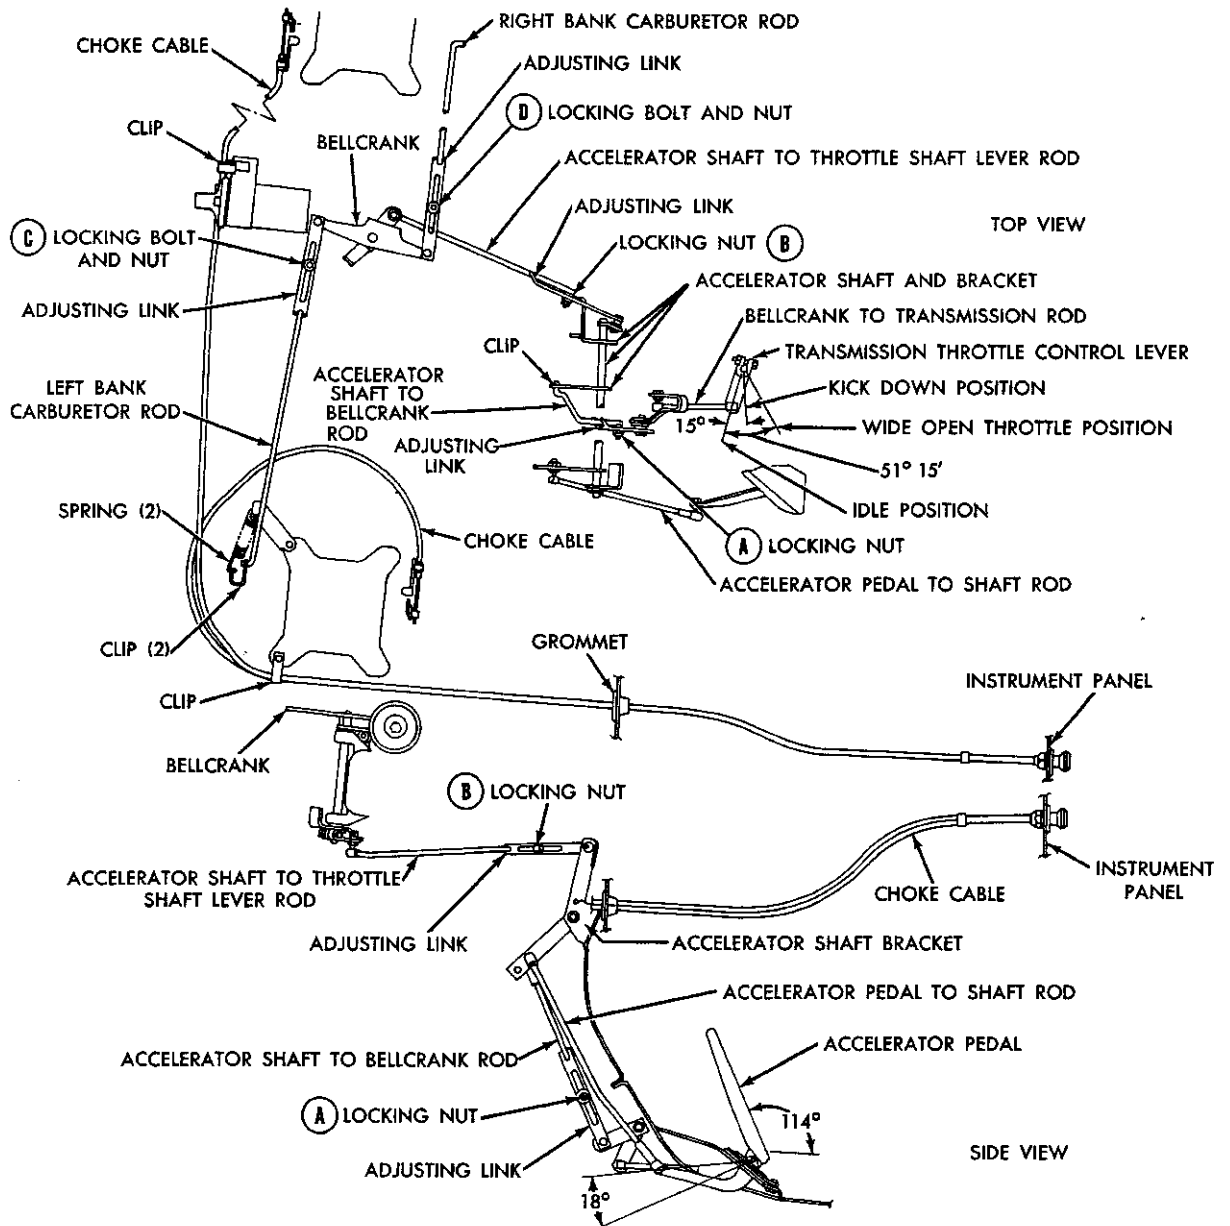

Fig. 23—Throttle Linkage Adjustment (C-300J)
(3) Model 300J, Refer to Figure 23. Loosen the locking nuts "A" and "B" (accelerator shaft to trans-